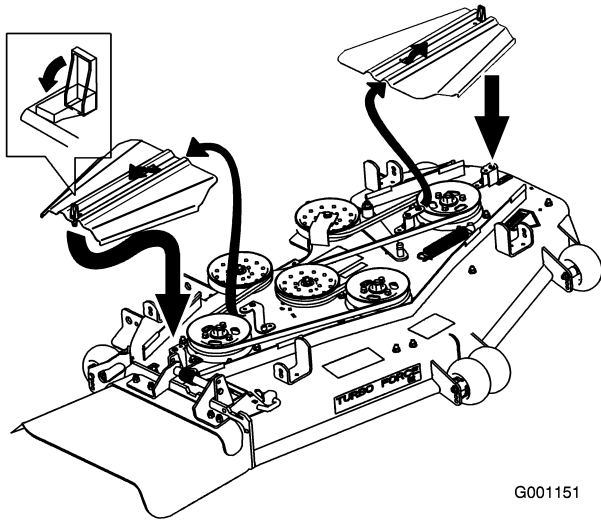

Figure 20
1. Remove the belt covers on domestic machines (Figure 20).